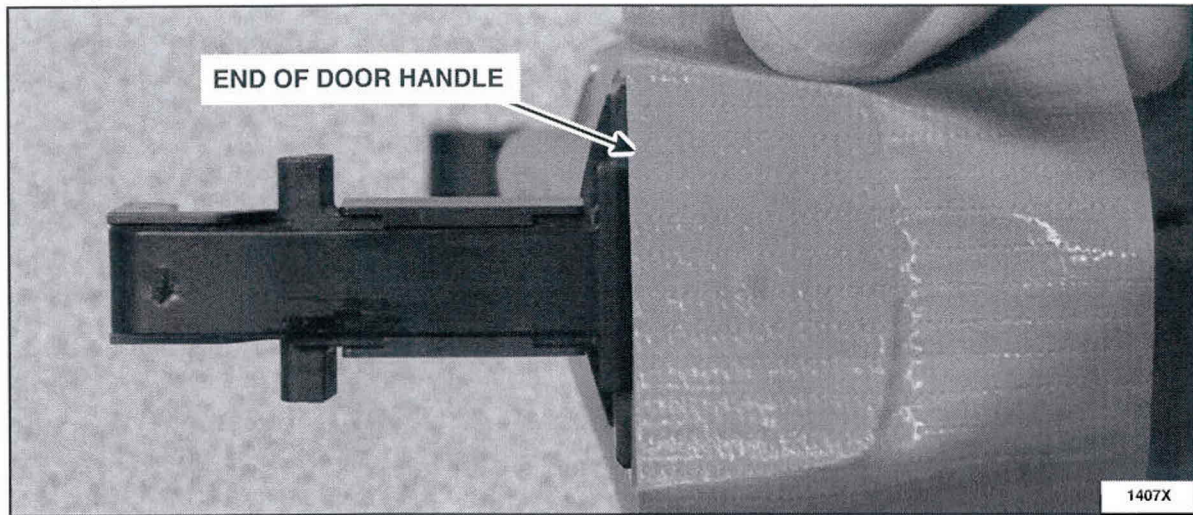

FIGURE 11
5. Apply protective tape to the end of the door handle to prevent damage. See Figure 11.